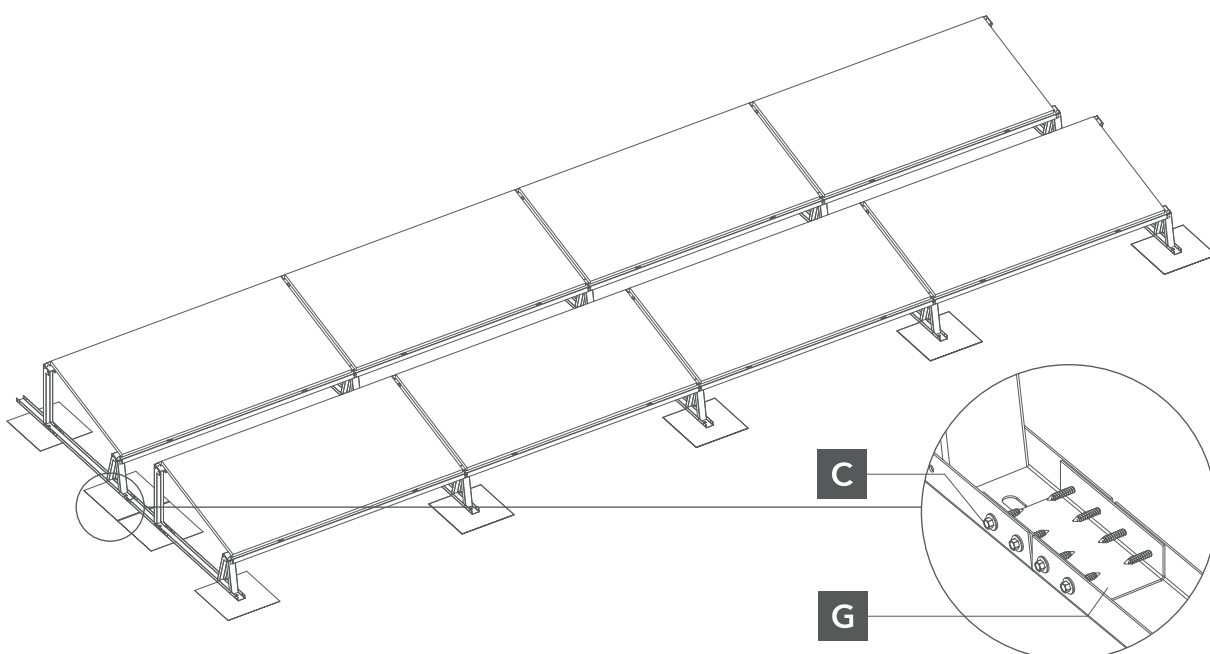

Fig. 7: Connecting the mounting triangles with a connector.
- 6** If there are two or more rows of photovoltaic panels, the mounting triangles should be moved with a connector (Fig. 7).